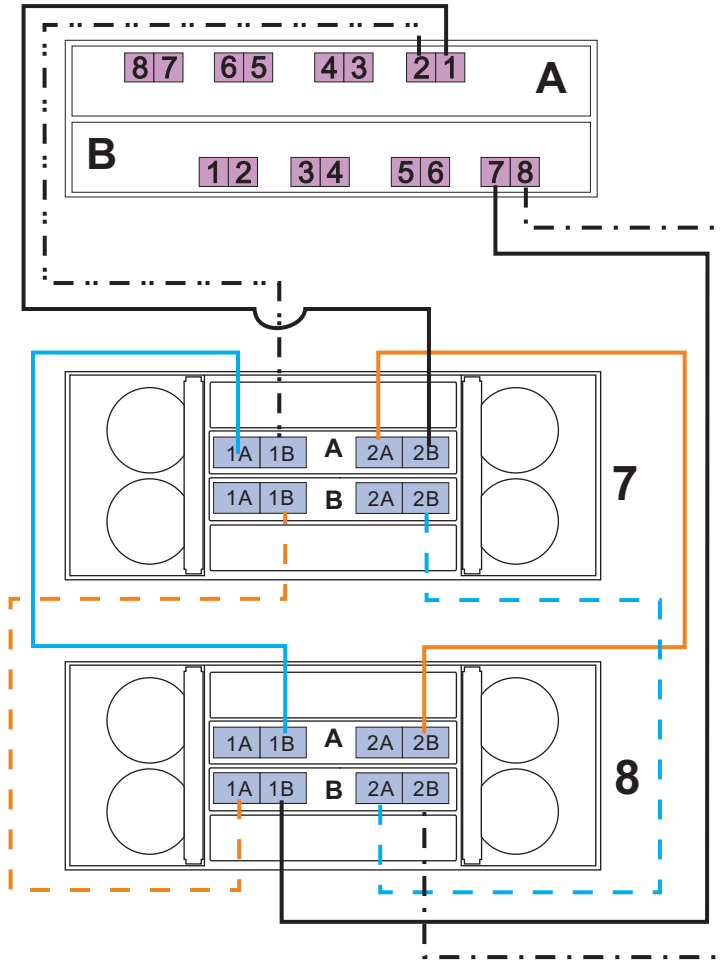

Figure 80. Cabling for eight EXP5060s, storage expansion enclosures 7 and 8 with drive-side trunking
- See Figure 80 on page 128 and Table 46 on page 129 for storage expansion enclosures 7 and 8